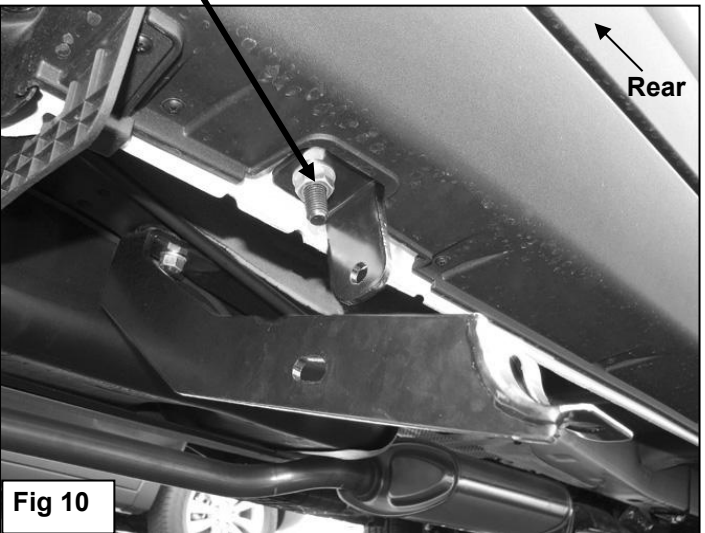

Fig 10
6	Position the passenger side Rear Frame Bracket up to the vehicle and partially attach the Bracket to the 12mm Bolt Plate inserted into the oval hole in the frame rail, (Figure 10) . Secure the Bracket to the Bolt Plate with the included (4)M6 Square Hex Bolt (4)M6 Nylon Lock Nuts (4)M6 Flat Washers. Line up the outer mounting hole in the Mounting Bracket with the Support Bracket and bolt together with (1) 10-1.5mm x 35mm Coarse Thread Hex Bolt, (2) 10mm Flat Washers, (1) 10mm Lock Washer and (1) 10mm Hex Nut, (Figure 11) . Snug but do not tighten hardware at this time.